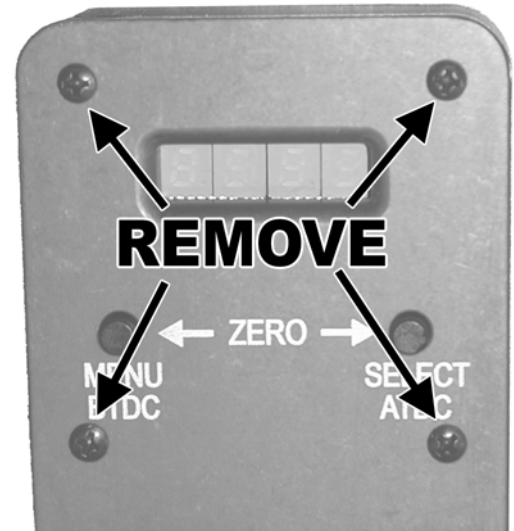

Figure 1.
- Remove 4 screws on main bracket shown in figure 1.